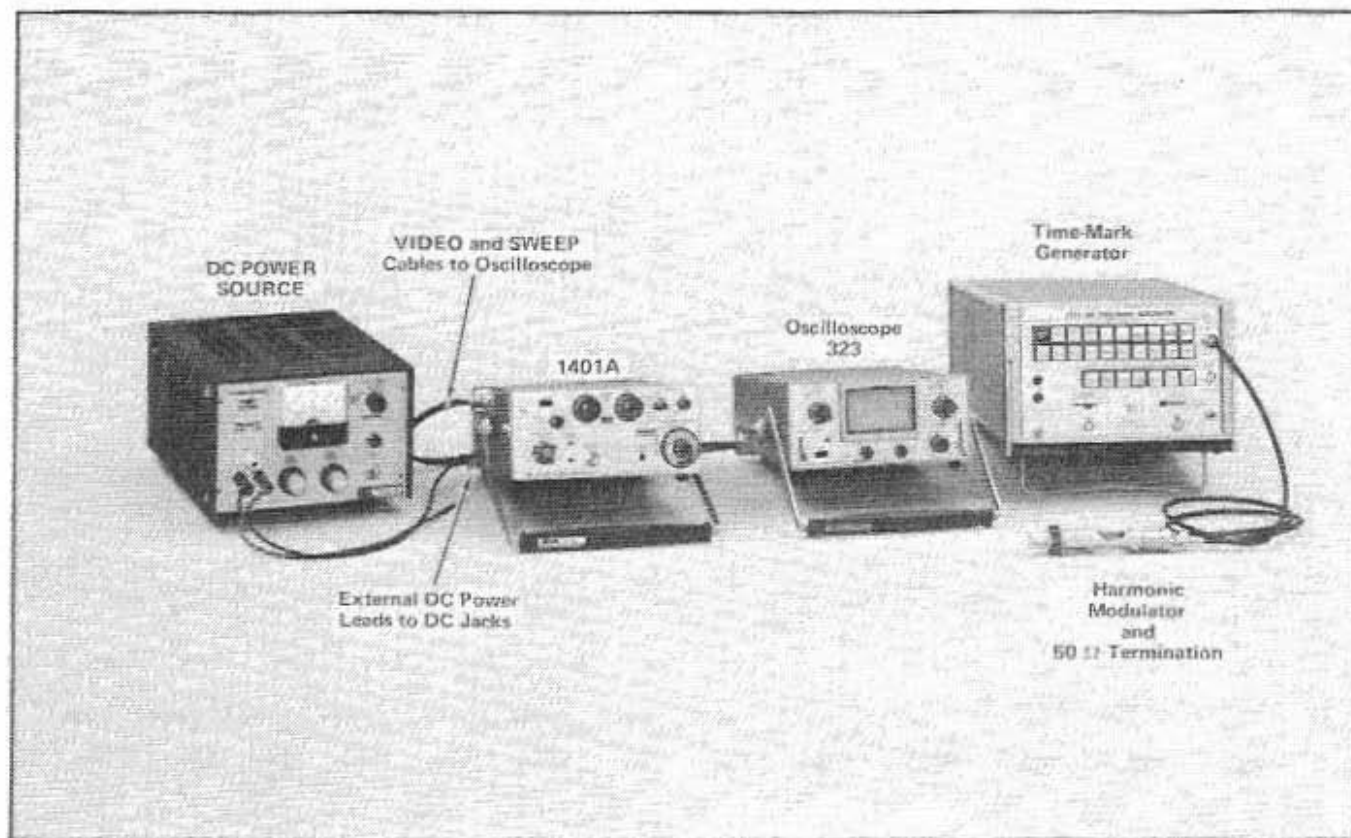

Fig. 5-1. Initial equipment setup for steps 1 through 5.
a. Connect the 1401A to the indicator oscilloscope as illustrated in Fig. 5-1, and set the front panel controls as follows: